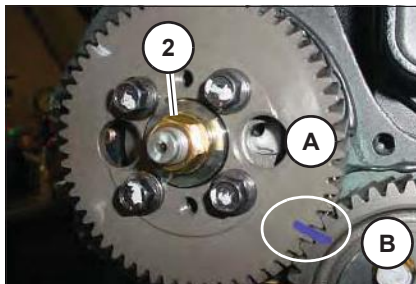

Fig. 11: Gear casing
- ☞ Check the marked position of the drive pinion of the fuel injection pump (fig. Fig. 11)